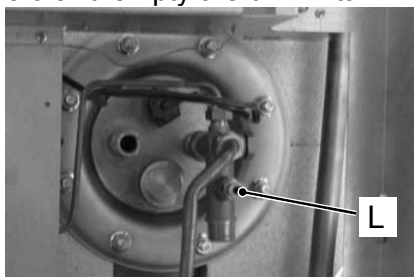

Figure 9
- 2) Turn on the storage tank drain cock L in Figure 9 and empty the d.h.w. tank.